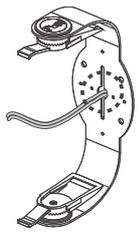

FIGURE 2:
1. In most cases you will be able to attach the MAGO6V2 brackets directly to the mounting surface. Run the speaker wires from the amplifier to the speaker locations and through the holes in the brackets (see figure 2).